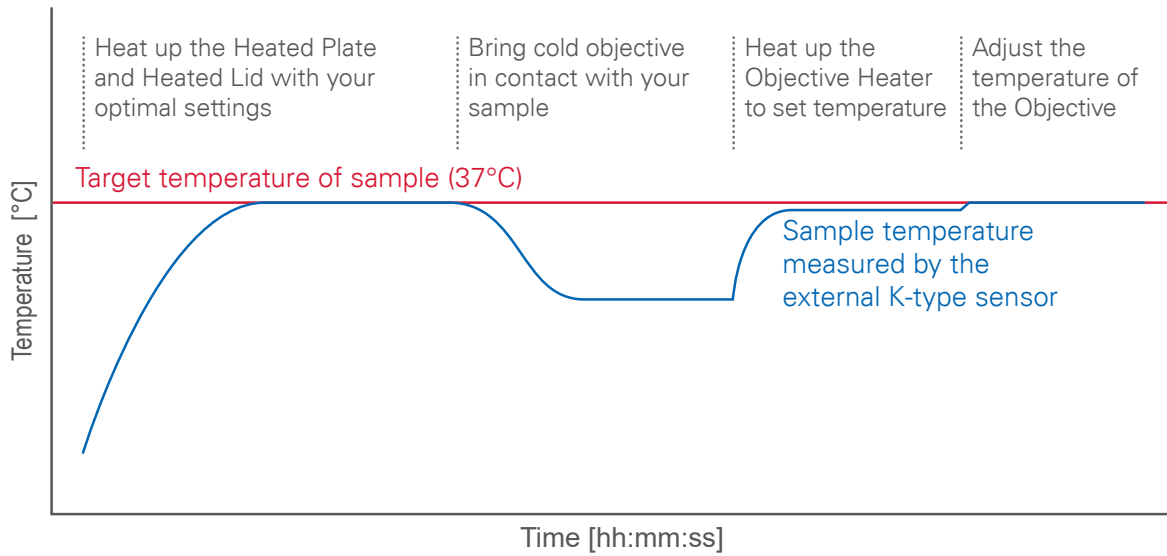

Figure 22: Temperature adjustment procedure to adjust the sample temperature to the target temperature.
2. As soon as the target temperature of the sample is reached, bring the cold objective in contact with the sample. The temperature of the sample will most likely drop (see Figure 22). Wait until the temperature of the sample reaches a stable plateau.